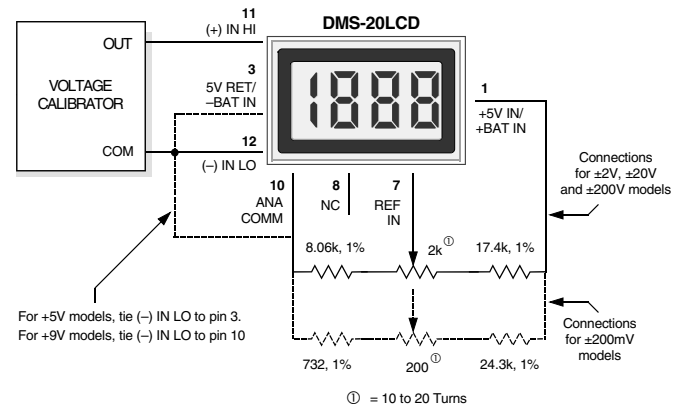

Figure 9. External Gain Adjustment
- 6. Gain Adjust:** There is a gain-adjust potentiometer on the back of each meter. It has approximately ±50 counts (±2.5%) range of adjustment. Since these devices essentially have no zero/offset errors, a gain adjustment is effectively an overall accuracy adjustment. Though they may be performed at any point (except zero), accuracy adjustments are most effective when performed with higher level input signals. The circuit shown in Figure 9 provides ±10% range of adjustment.
- 7. External Gain Adjustment:** Connect REFERENCE OUT (pin 8) to REFERENCE IN (pin 7) for normal, factory calibrated, operation. Use the circuit shown in Figure 9 for applications needing external gain adjustment. Calibration is performed with a precise, near-full-scale, input voltage.